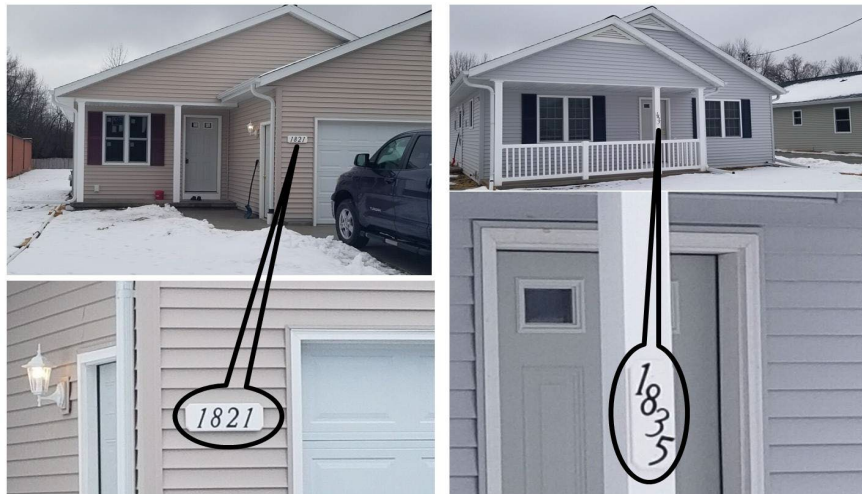

Figure 20-3. House Numbers Installed on a Board.
5. Attach the numbers to the textured face of the board using 1¼" finish nails supplied with the house numbers (see Figure 20-3). For a horizontal orientation, arrange the numbers so they are centered horizontally and vertically and equally spaced. For a vertical orientation, arrange the numbers so they are equally staggered vertically and horizontally.